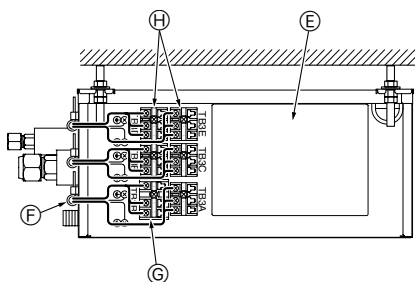

Fig. 9-3
4. Fix each wire in place with a wiring clamp. (Fig. 9-3)
5. Firmly connect each wire to the appropriate terminal block. (Fig. 9-3)